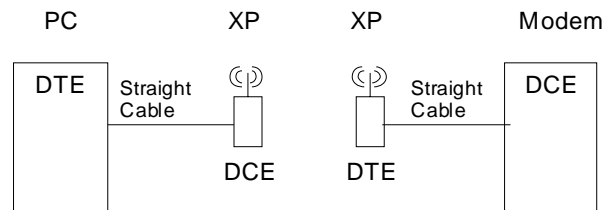

Figure 5 - BluePort XP radio link
A pair (2) of BluePort XP wireless radios will allow you to remove the straight cable and replace it with a wireless connection. The connection looks something like *Figure 5*.